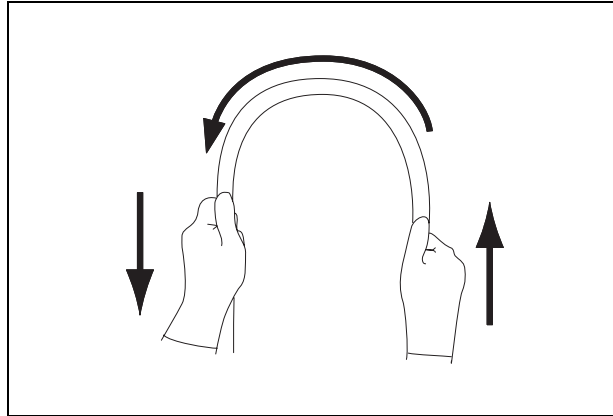

Figure 3.3
5. Using both hands, bend the insertion tube of the endoscope into a semicircle. Then, moving your hands as shown by the arrows, confirm that the entire insertion tube can be smoothly bent to form a semicircle and that the insertion tube is sufficiently pliable (see Figure 3.3).